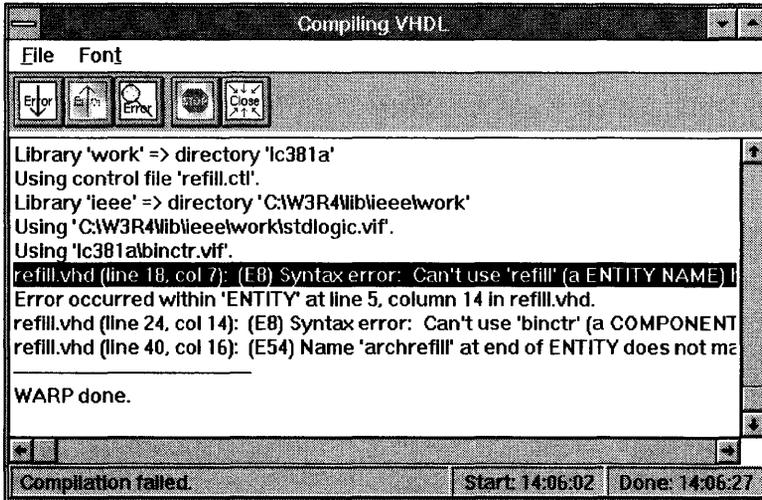

Figure 3-31 Compile window with an error message
- => Highlight the error message by clicking on it (Figure 3-31).